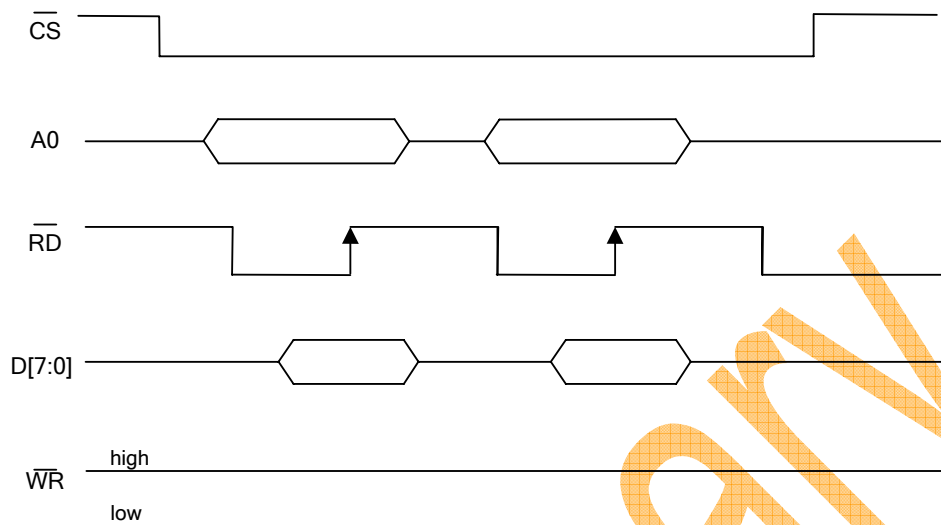

Figure.7 Example of read procedure in 8080 parallel interface form 1
The CH1116 supports both read and write access. The R/\bar{W} bit is part of the slave address. Before any data is transmitted on the I²C-bus, the device that should respond is addressed first. Two 7-bit slave addresses (0111100 and 0111101) are reserved for the CH1116. The least significant bit of the slave address is set by connecting the input SA0 to either logic 0(VSS) or 1 (VDD1). The I²C-bus protocol is illustrated in Fig.7. The sequence is initiated with a START condition (S) from the I²C-bus master that is followed by the slave address. All slaves with the corresponding address acknowledge in parallel, all the others will ignore the I²C-bus transfer. After acknowledgement, one or more command words follow which define the status of the addressed slaves. A command word consists of a control byte, which defines C_0 and D/\bar{C} (note1), plus a data byte (see Fig.7). The last control byte is tagged with a cleared most significant bit, the continuation bit C_0 . After a control byte with a cleared C_0 -bit, only data bytes will follow. The state of the D/\bar{C} -bit defines whether the data-byte is interpreted as a command or as RAM-data. The control and data bytes are also acknowledged by all addressed slaves on the bus. After the last control byte, depending on the D/\bar{C} bit setting, either a series of display data bytes or command data bytes may follow. If the D/\bar{C} bit was set to '1', these display bytes are stored in the display RAM at the address specified by the data pointer. The data pointer is automatically updated and the data is directed to the intended CH1116 device. If the D/\bar{C} bit of the last control byte was set to '0', these command bytes will be decoded and the setting of the device will be changed according to the received commands. The acknowledgement after each byte is made only by the addressed slave. At the end of the transmission the I²C-bus master issues a stop condition (P). If the R/\bar{W} bit is set to one in the slave-address, the chip will output data immediately after the slave-address according to the D/\bar{C} bit, which was sent during the last write access. If no acknowledge is generated by the master after a byte, the driver stops transferring data to the master.